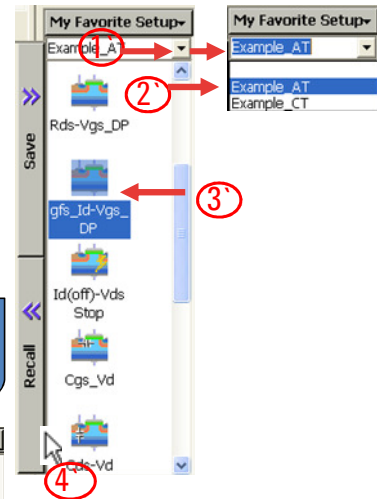

Figure 3-24. gfs\_Id-Vgs\_DP Application Test setup.
Setup and execute the test by following the next steps. The same instruction steps are illustrated by the numbers on the "1. Starting from Application Test Library" side of figure 3-24.
Step 5. Set the test parameters shown in figure 3-24 to an appropriate one depending on your B1505A configuration and your test device.
Setup and execute the test by following the next steps. The same instruction steps are illustrated by the numbers on the "1'. Starting from Application Test Library" side of figure 3-24.